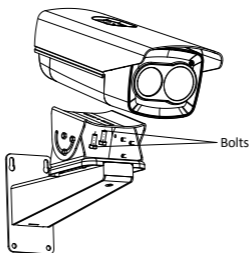

Figure 2-6 Fix the Camera to the Bracket
2. Fix the bullet camera to the mounting bracket with the supplied screws, as shown in Figure 2-6.